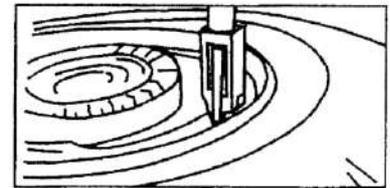

Figure 5
4. Stop breaking the tire bead when you have moved the bead breaker about 3/4 of the way around the rim. (See Fig. 5.)